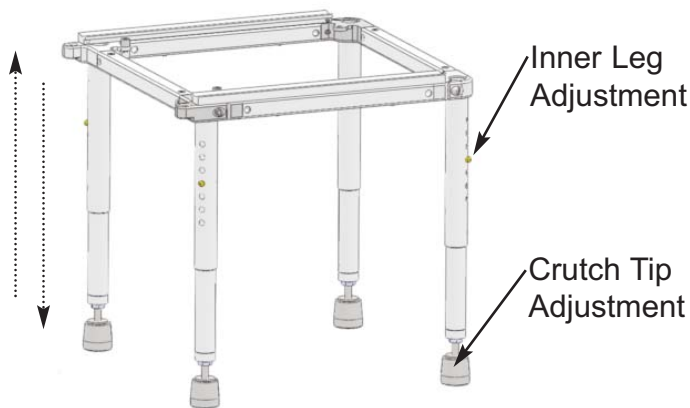

Figure 13
**D** Adjust the height of the tub section to match the height of the roll-in section by either adjusting the four inner legs (tub section) and/or the adjustable crutch tips (tub section) - Refer to Figure 13.